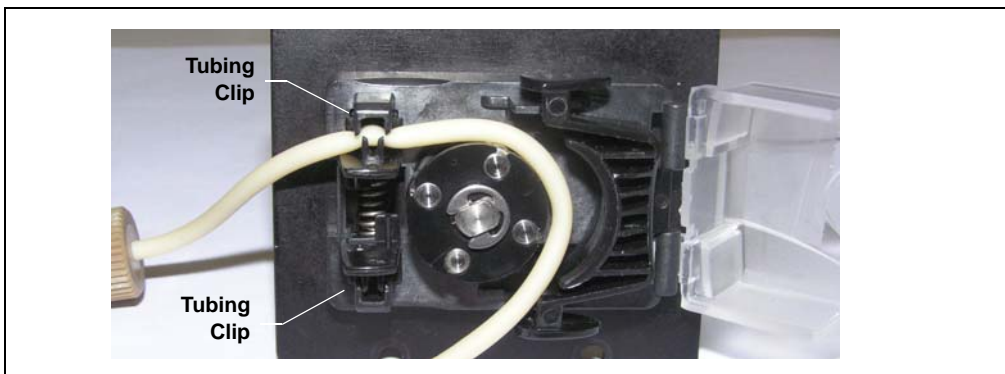

Figure E-6. Peristaltic Tubing Installation (Continued)
8. Push down on the top tubing clip to open it, insert the tubing into the clip opening, and then release the clip (see Figure E-6).